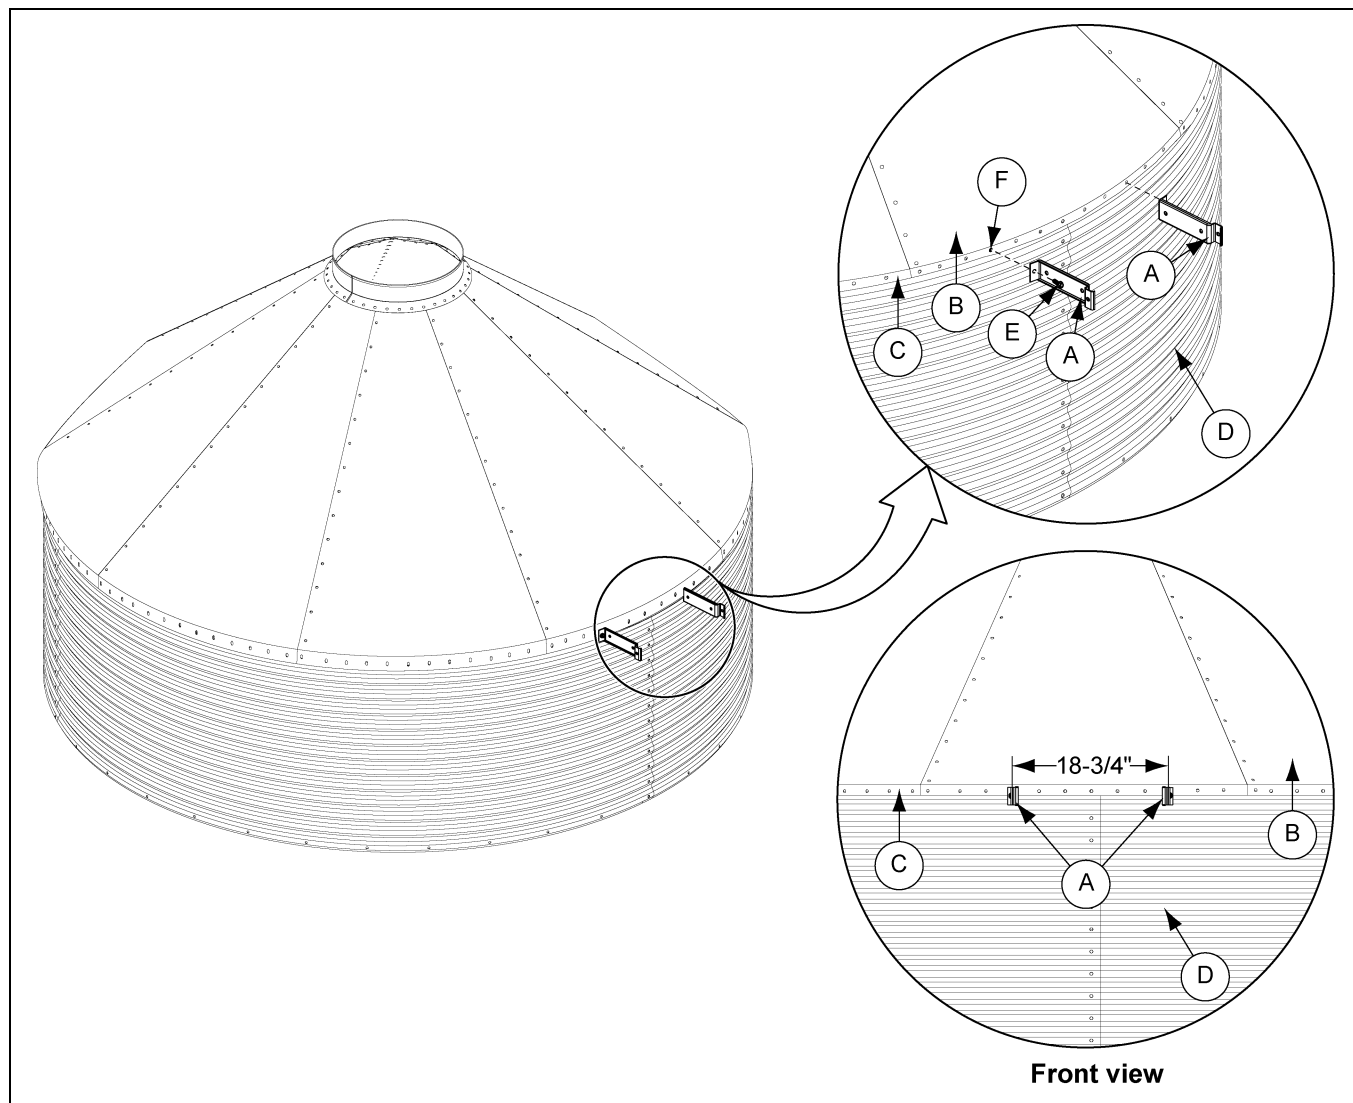

Figure 8F
1. The standoff brackets (A) at the eave must be centered in the roof panel (B) to ensure proper installation of the roof ladder support brackets.
2. Install the standoff brackets (A) to the holes in the top horizontal seam (C) using 5/16" and 1" bin bolts. (See Figure 8F.)